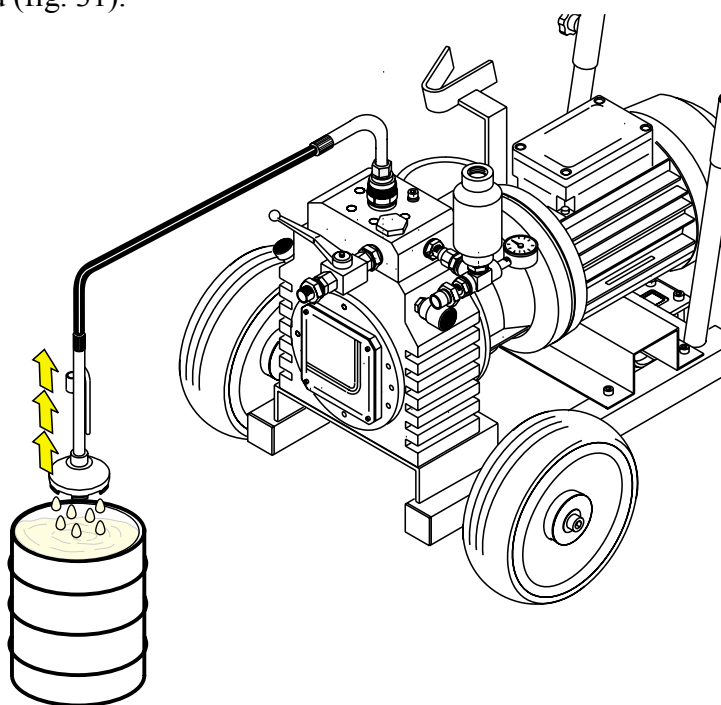

Fig.31
1) Lift the suction pipe and the recycle pipe from the container, making sure that the product does not fall on the ground (fig. 31).